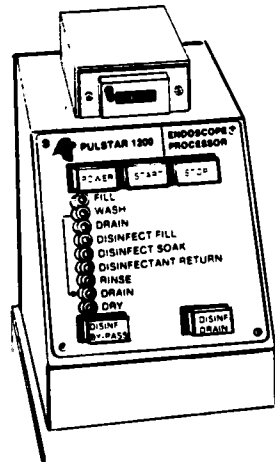

Figure 5-3. CONTROL PANEL.
a. Press the START pushbutton. Note that the START pushbutton is lighted (reference Figure 5-3).